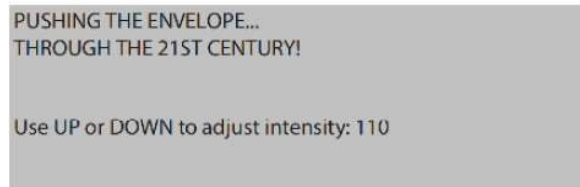

FIGURE 18: Adjust Intensity screen
- 2 Press the Left arrow button. The Adjust Intensity screen appears (Figure 18).